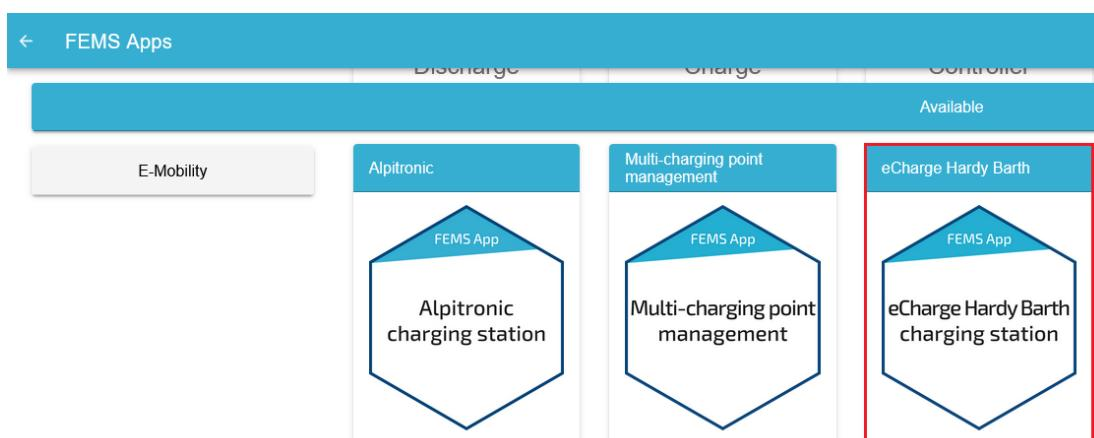

Figure 21. App installation — Variant 2: Step 2
- Figure 21. App installation — Variant 2: Step 2